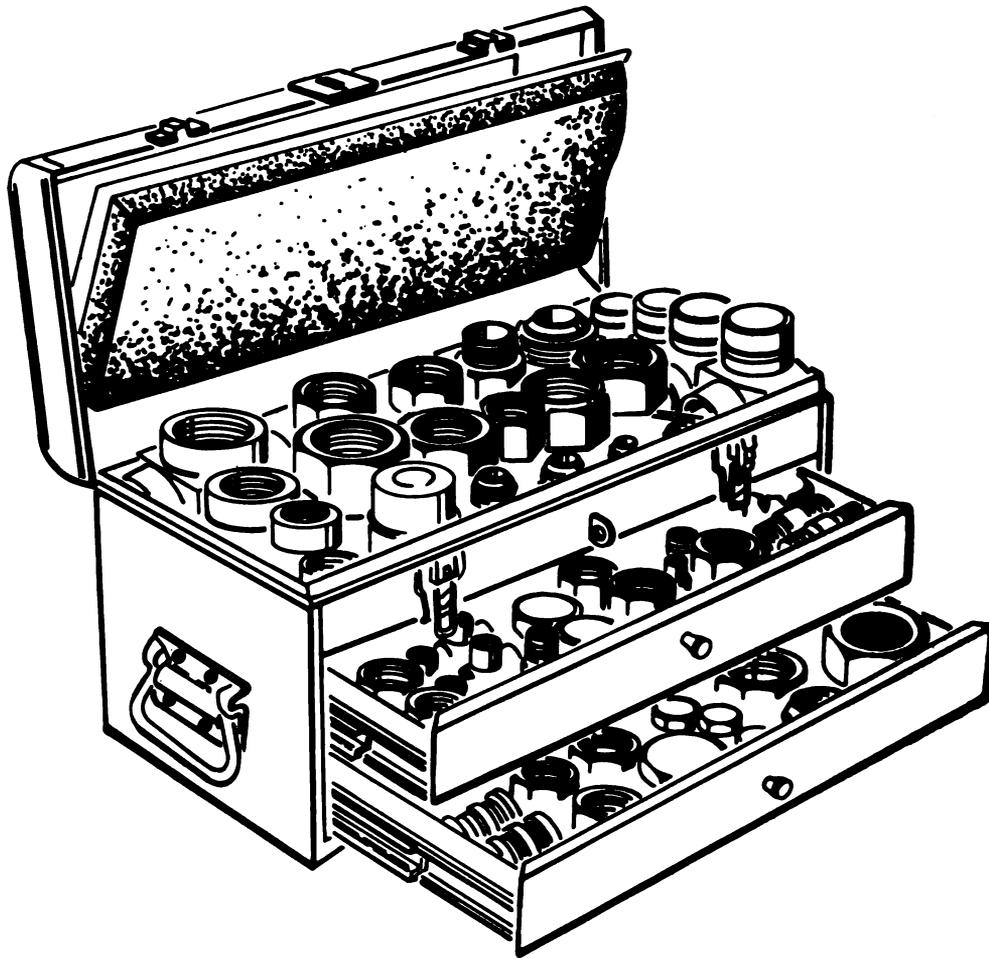

Figure 1-27. Adapter Fitting Kit.
j. *Adapter Kit.* Some equipment does not have any hydraulic system testpoints. When test points are installed, they frequently are 1/8 or 1/4 inch pipe, or 1/4 inch O-ring ports. These test points are too small for the hydraulic system tester. For this reason, an adapter kit (figure 1-27) has been included in the HSTRU. The adapter kit makes it possible to use the hydraulic system tester and pressure gages to test hydraulic systems. The kit has all the tees and adapter fittings required to adapt any hydraulic system to the 1/8 NPT gage connection and the 1 inch, 37 degree flare tester connection. The kit also has the fittings required to adapt hose and tubing to the hand pump for Proof Pressure Testing.